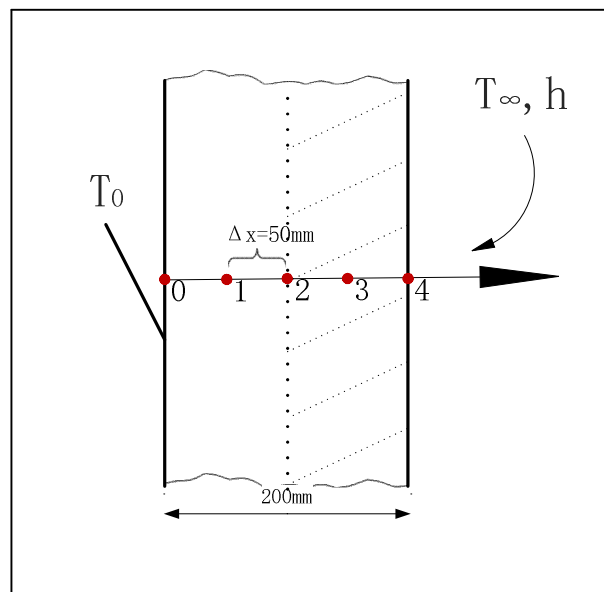

Figure 6. Wall with the nodes
6.1 Consider a one-dimensional steady-state heat transfer in a wall section, constituted by a thermal insulation layer (conductivity 0.01 W/mK , length 100 mm) and by a structural layer (conductivity 0.01 W/mK and length 100 mm) as shown in Figure 6. The left side temperature 20°C and the right side loses heat by convection to the surrounding air at $T_\infty = 0^\circ \text{C}$ and heat transfer coefficient $h = 5 \text{ W/m}^2\text{K}$. Use 5 nodes and the finite difference formulation of heat transfer to determine the four nodal temperatures (node 1 to node 4).